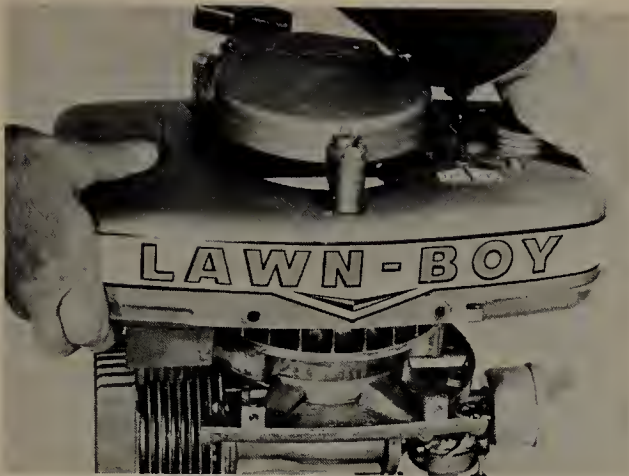

FIGURE 16.2 Removing engine shroud, gas tank, and starter as an assembly. (*Lawn Boy Division, Outboard Marine Corporation.*)
16.2 Engine Disassembly. As a first step, clean the engine as explained in Chap. 11. Then disconnect the gas line from the carburetor, remove the choke rod from the choke shaft, take out the attaching screws, and remove the complete engine shroud, gasoline tank, and recoil starter as an assembly. See Fig. 16.2.